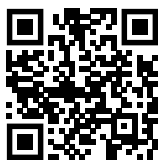

Fig. 145
- ▶ Open Liebherr SmartMonitoring Dashboard. (see Fig. 145)